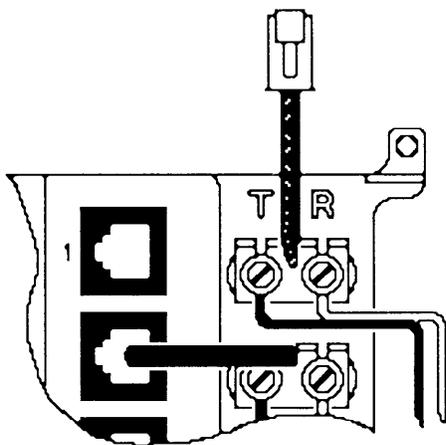

Fig. 2—SNI-2125 Subscriber Wiring Bridge
2.02 The SNI-2125 is a compact 25 line indoor Network Interface system. The unit is provided with a male RJ-21 connector on the Network side and individual Wiring Bridges on the Subscriber side (Figure 2). The Subscriber Wiring Bridges feature four-washer SEMS screws with space for multiple home runs and are field replaceable.